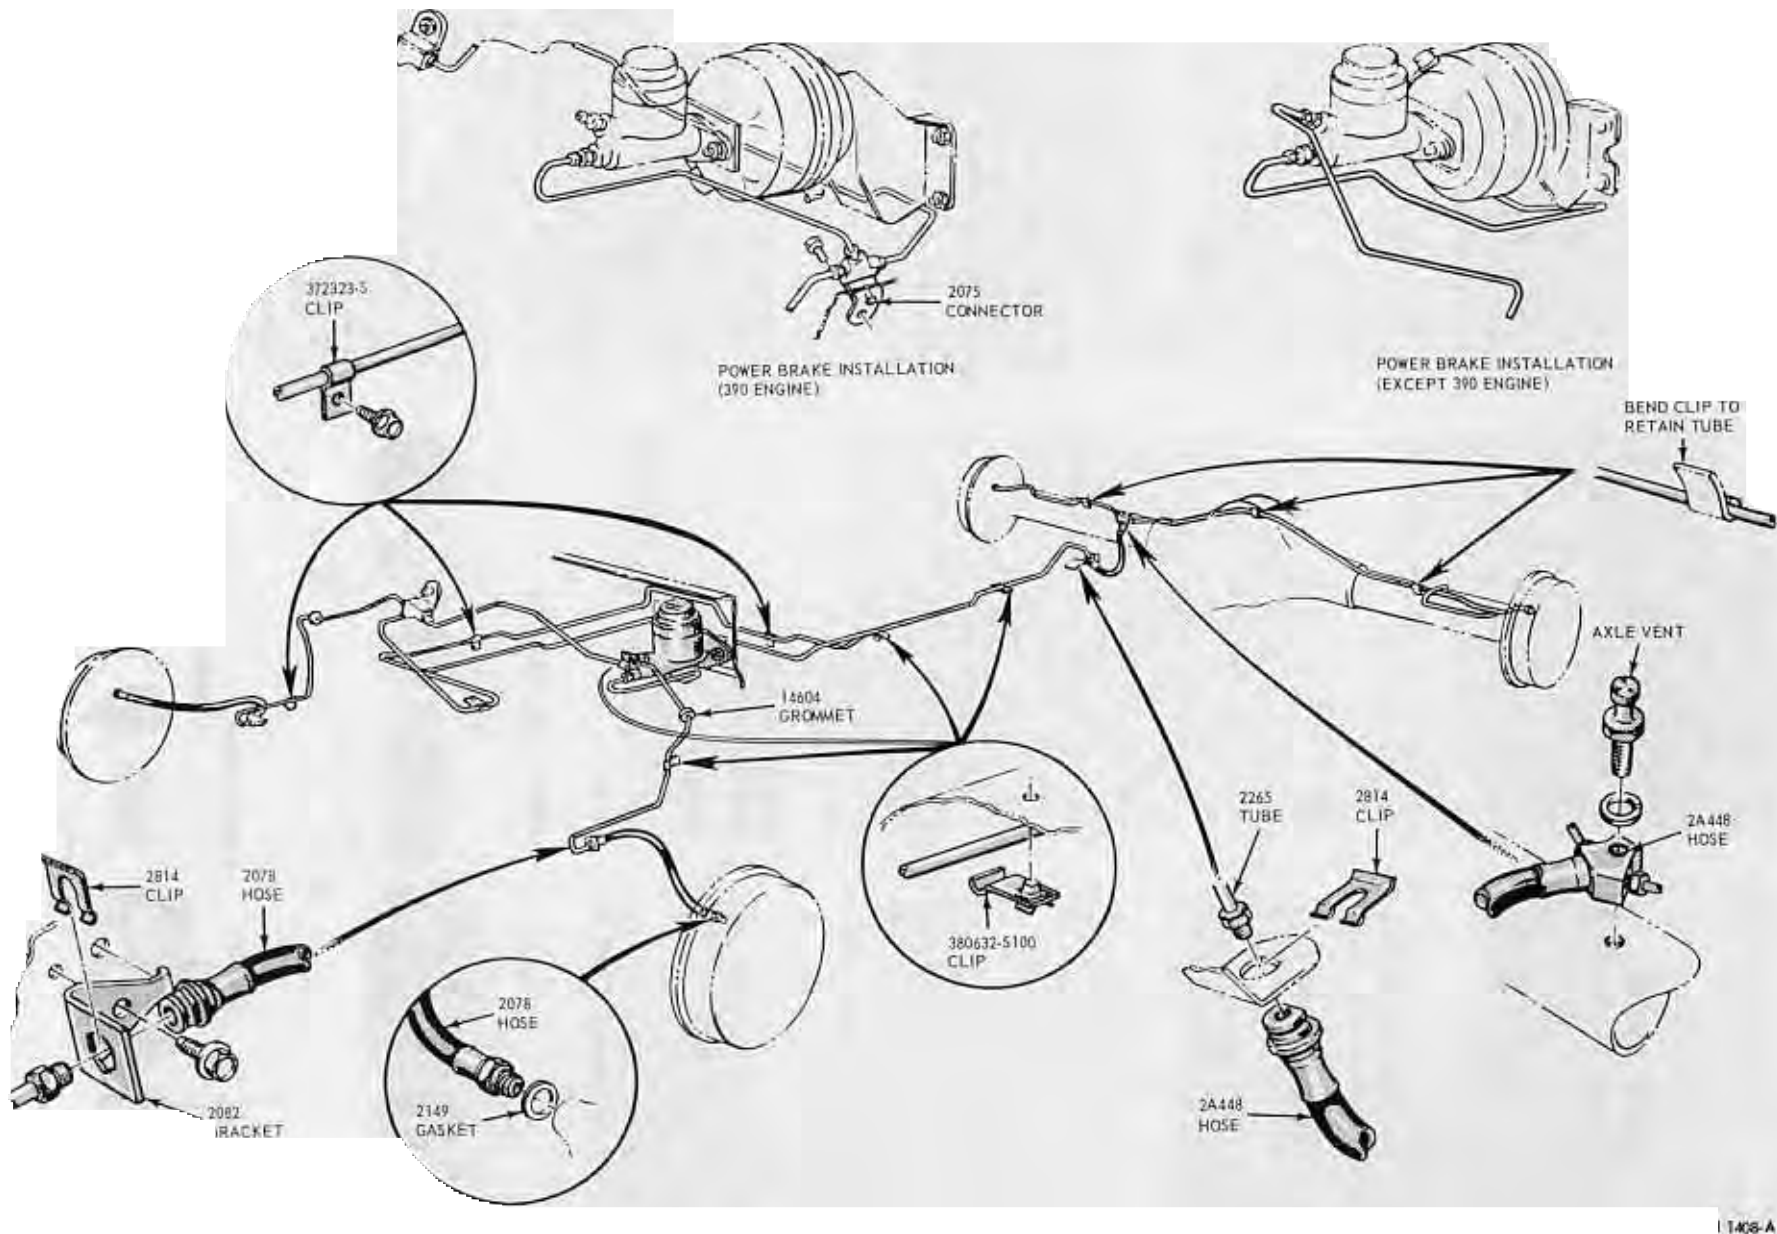

FIG. 23—Hydraulic Brake System—Comet-Fairlane and Falcon
1. Disconnect and remove the Master cylinder - to - proportioning valve brake tube (Fig. 23).
2. Connect the front-to-rear brake tube to the valve (Fig. 23).
Steel tubing is used throughout the brake system with the exception of the flexible hoses at the front wheels and at the rear axle housing brake tube connector (Figs. 23 and 24).